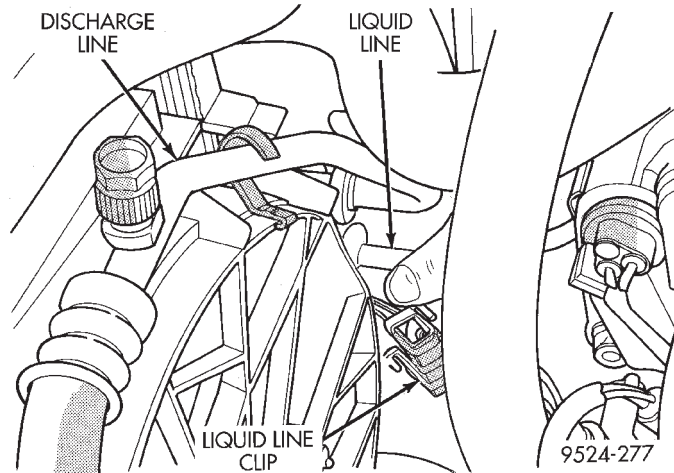

Fig. 61 Clip Removal
- (2) Remove A/C quick connect clip at condenser (Fig. 61).